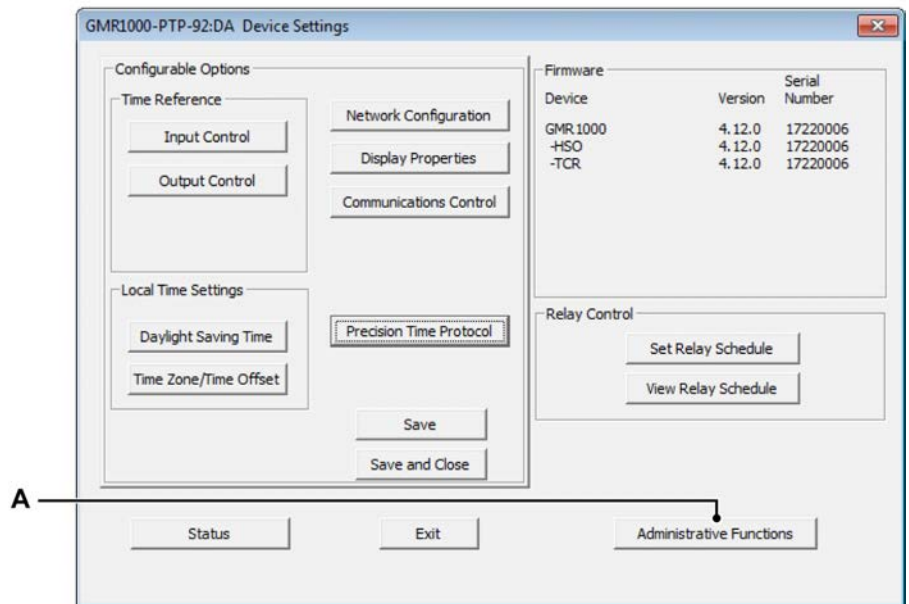

Figure D.25: GMR1000 PTP Device settings
- Finally, close the Advanced (data sets) and PTP - Precision Time Protocol windows. This will bring back the GMR1000 PTP device settings window (see Figure D.25).
- 8 As the IRIG signal contains no date, this needs to be entered manually. Open the **Administrative Functions** dialog with the **Administrative Functions (A)** button (see Figure D.25).